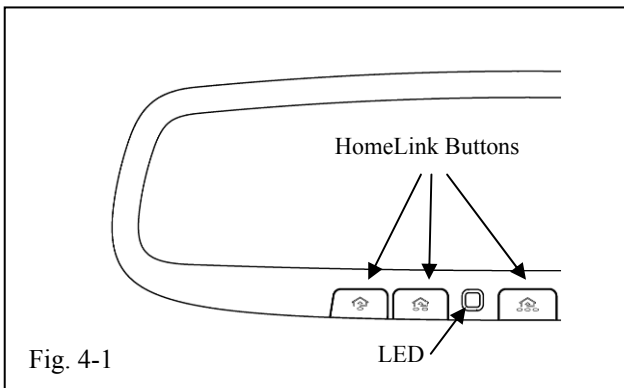

Fig. 4-1
- (1) Push in HomeLink® switches, one at a time. Verify that the LED Indicator light is red when each switch is pushed. (Fig. 4-1)